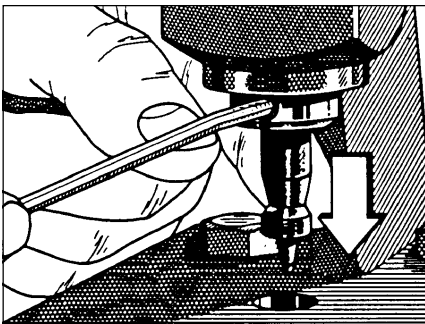

Figure 15. Removing the Punch
1. Remove the punch by loosening the set screw (figure 15).